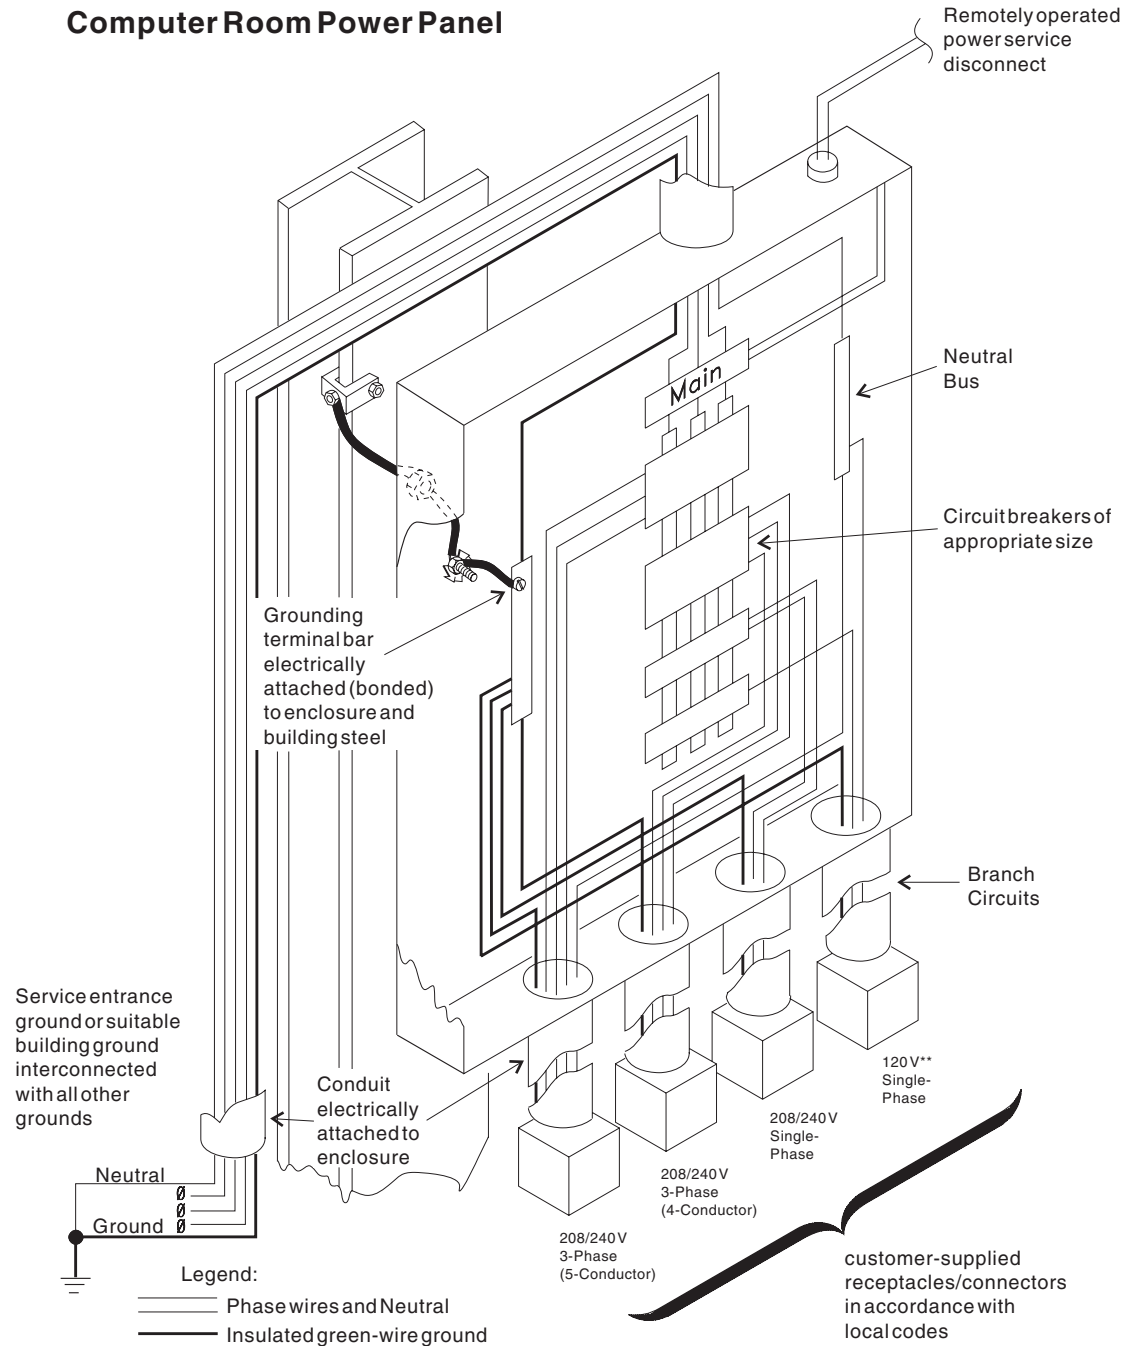

Figure 23. Typical Power Distribution System
4. Ensure that the ground has sufficiently low impedance to limit the voltage to ground and to ensure the proper operation of protective devices in the electrical circuit. As an example, the ground path should not exceed one (1) ohm for 120-volt, 20-ampere branch circuit devices. Your local requirements might be more stringent.
6. Ensure that the equipment grounding conductor to the power distribution center is electrically bonded to the enclosure and to the connector grounding terminal. Figure 23 on page 179 shows the correct wiring of a typical power distribution system. The conduit must not be used as the only grounding means and it must be connected in parallel with any grounding wires it contains.